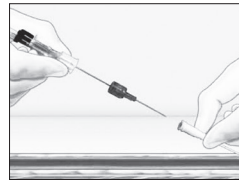

Figure 5
- Grasp catheter hub in one hand and needle hub in the other hand (refer to Figure 5).